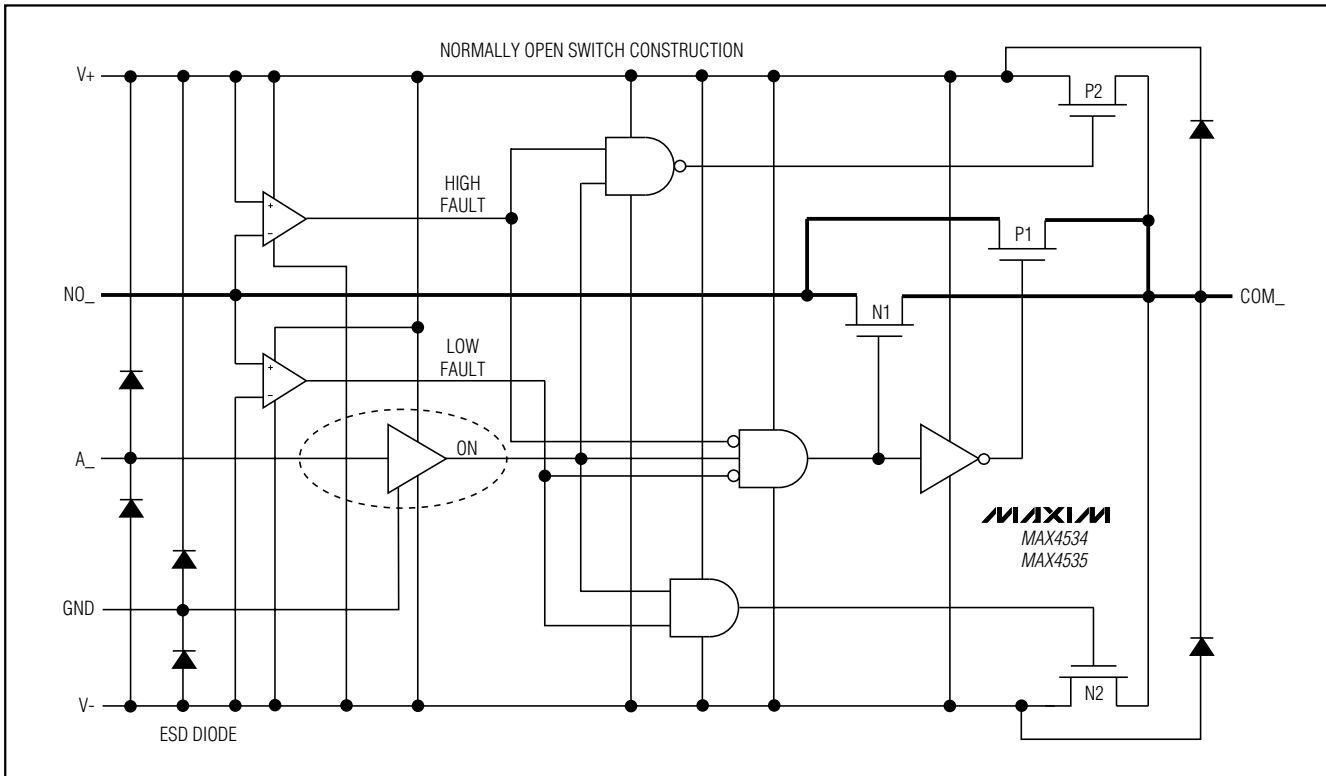

Figure 1. Functional Diagram
Figure 1 shows the internal construction, with the analog signal paths shown in bold. A single, normally open (NO) switch is shown. The analog switch is formed by the parallel combination of N-channel FET N1 and P-channel FET P1, which are driven on and off simultaneously, according to the input fault condition and the logic level state.
off in response to A_ signals (Figure 1). The parallel combination of N1 and P1 forms a low-value resistor between NO_ and COM_ so that signals pass equally well in either direction.
When the signal on NO_ exceeds V+ by about 150mV, the positive fault comparator output goes high, turning off FETs N1 and P1 (Figure 1). This makes the NO_ pin high impedance regardless of the switch state. If the switch state is "off," all FETs turn off, and both NO_ and COM_ are high impedance. If the switch state is "on," FET P2 turns on, clamping COM_ to V+.
When the signal on NO_ goes about 150mV below V-, the negative fault comparator output goes high, turning off FETs N1 and P1 (Figure 1). This makes the NO_ pin high impedance regardless of the switch state. If the switch state is "off," all FETs turn off, and both NO_ and COM_ are high impedance. If the switch state is "on," FET N2 turns on, clamping COM_ to V-.
FETs N2 and P2 can source about ±10mA from V₊ or V₋ to the COM₋ pin in the fault condition (Figure 1). Ensure that if the COM₋ pin is connected to a low - impedance load, the 30mA absolute maximum current rating is never exceeded, both in normal and fault conditions.